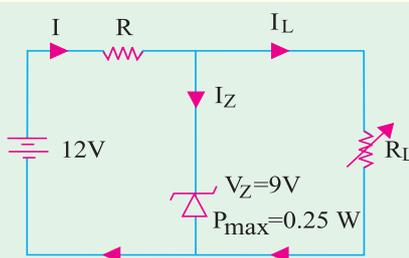

Fig. 54.40
5. A 9 V stabilized voltage supply is required to run a car stereo system from car's 12 V battery. A Zener diode with $V_z = 9\text{ V}$ and $P_{max} = 0.25\text{ W}$ is used as a voltage regulator as shown in Fig. 54.40.